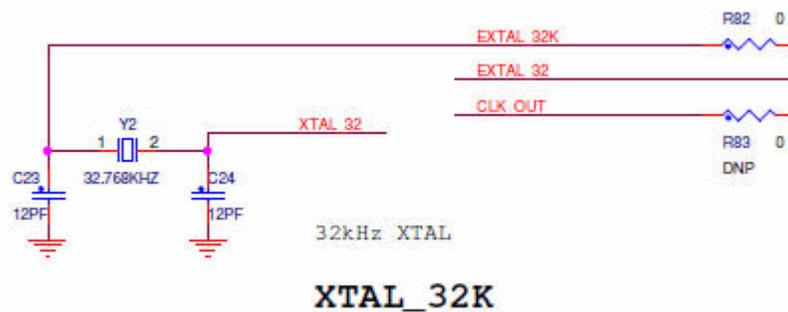

Figure 3-6. TWR-KW24D512 32.768 kHz Optional Oscillator Circuit
- Optional 32.768 kHz Crystal Oscillator - Provision is also made for a secondary 32.768 kHz crystal Y2 (see Figure 3-6). This oscillator can be used for a low power accurate time base.